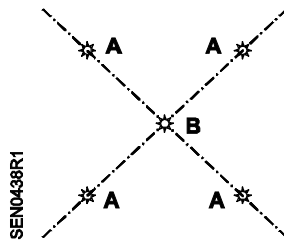

Figure 2. Mounting Screw Locations.
4. Drill four 1/8-inch holes for the mounting screws at the points labeled "A", and a 7/8-inch diameter hole at the point labeled "B" (see Figure 2).